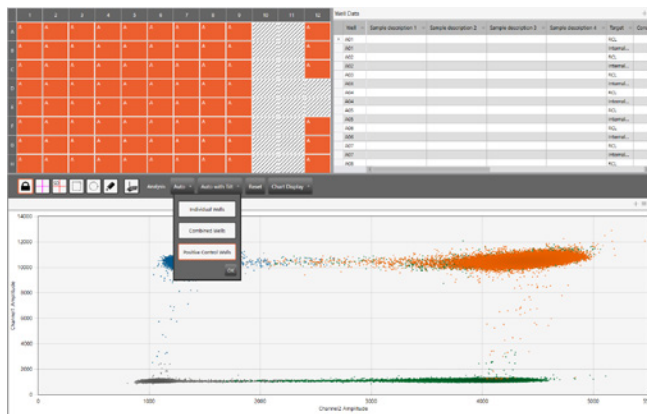

Fig. 3. 2D Amplitude screen using positive control–based autothresholding with tilt.
3. Click the Auto with Tilt button, select Positive Control Wells at the bottom of the dropdown menu, and click OK. This will autothreshold all selected wells based on the designated positive control wells. See Figure 3 for details.